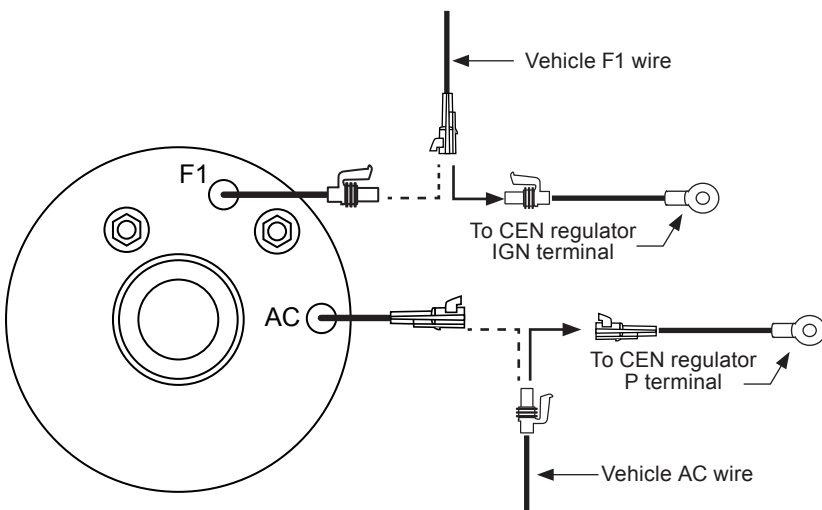

Figure 6: Reuse Existing FLD wire for IGN and AC wire from EMP
- If replacing **EMP** alternator: remove connectors from F1 and AC pigtails on alternator. See Figure 6.